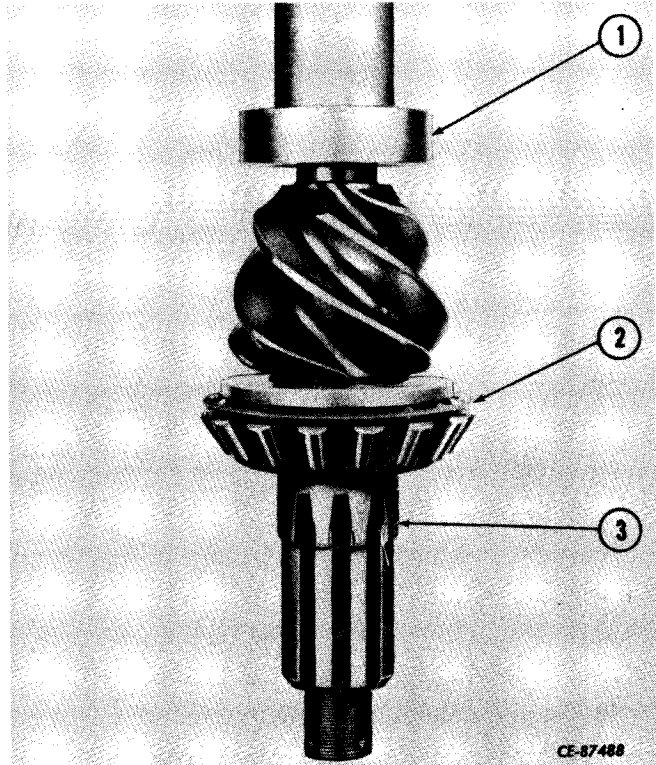

Figure 6-36
Press inner thrust bearing (2, Fig. 6-36) on pinion shaft (3). Be sure bearing cone bottoms on gear shoulder. Press pilot bearing (1) on pinion shaft. Install retaining snap ring. Be